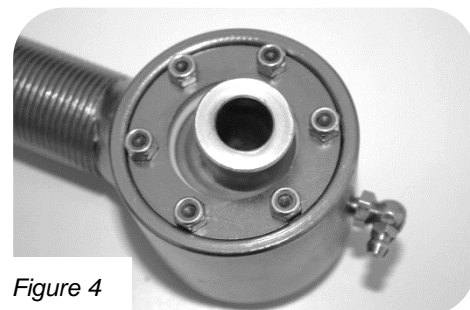

Figure 4
8. Insert the remaining four cap screws through the remaining holes and install nuts. (Figure 4)